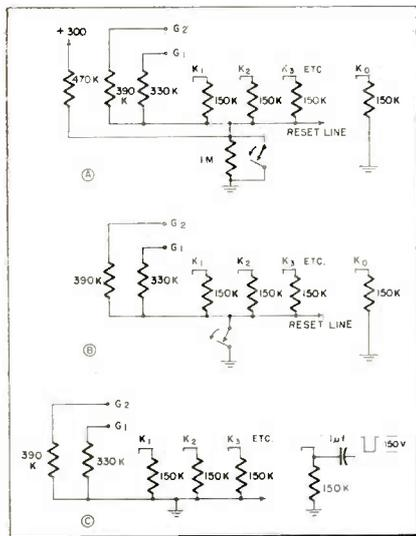

Fig. 4: Methods of accomplishing reset. (a) Positive voltage on reset line. (b) Floating reset line. (c) Grounding and negative reset
Fig. 4: (A) Usual shape coil cannot be entirely free from end-effects (B) Interlaced elliptical coils eliminate end-effects (C) Planar view of printed crossed-field deflecting coils